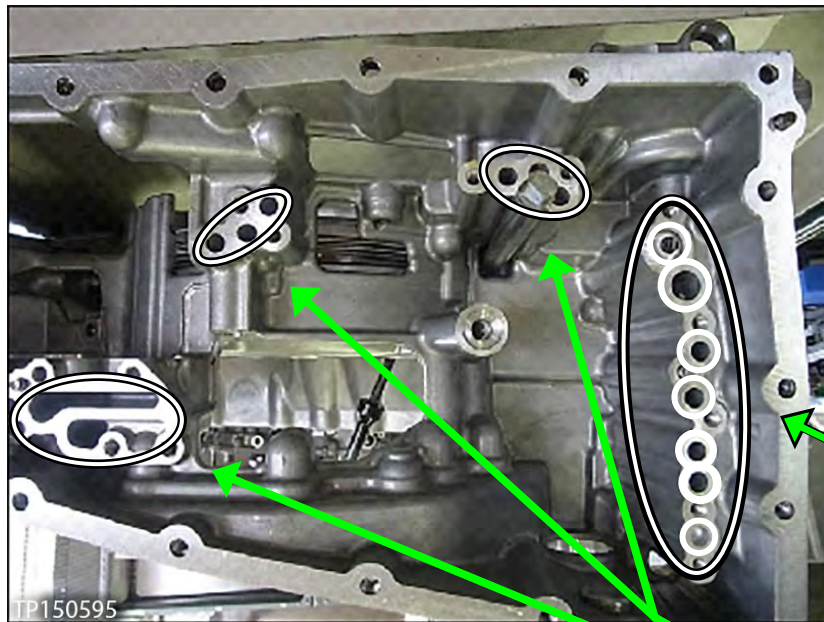

Figure 50
1. Spray in all oil passages in the CVT case where shown in Figure 50.